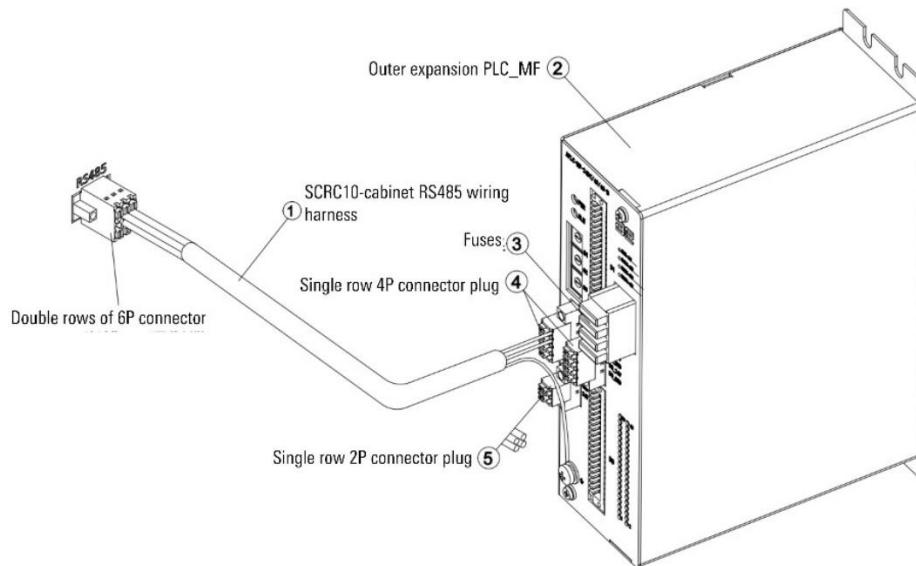

Figure 17-1 Connect to external expansion PLC\_MF
Step1. Connect one end of the SCRC10-cabinet RS485 wiring harness with double rows of 6P connectors to the RS485 interface on the cabinet, connect the other end of the SCRC10-cabinet RS485 wiring harness to the outer expansion PLC\_MF, the shield is connected to the ground, and the other two signal lines are connected to the corresponding X1 "+", "- ", refer to Figure 17-1.